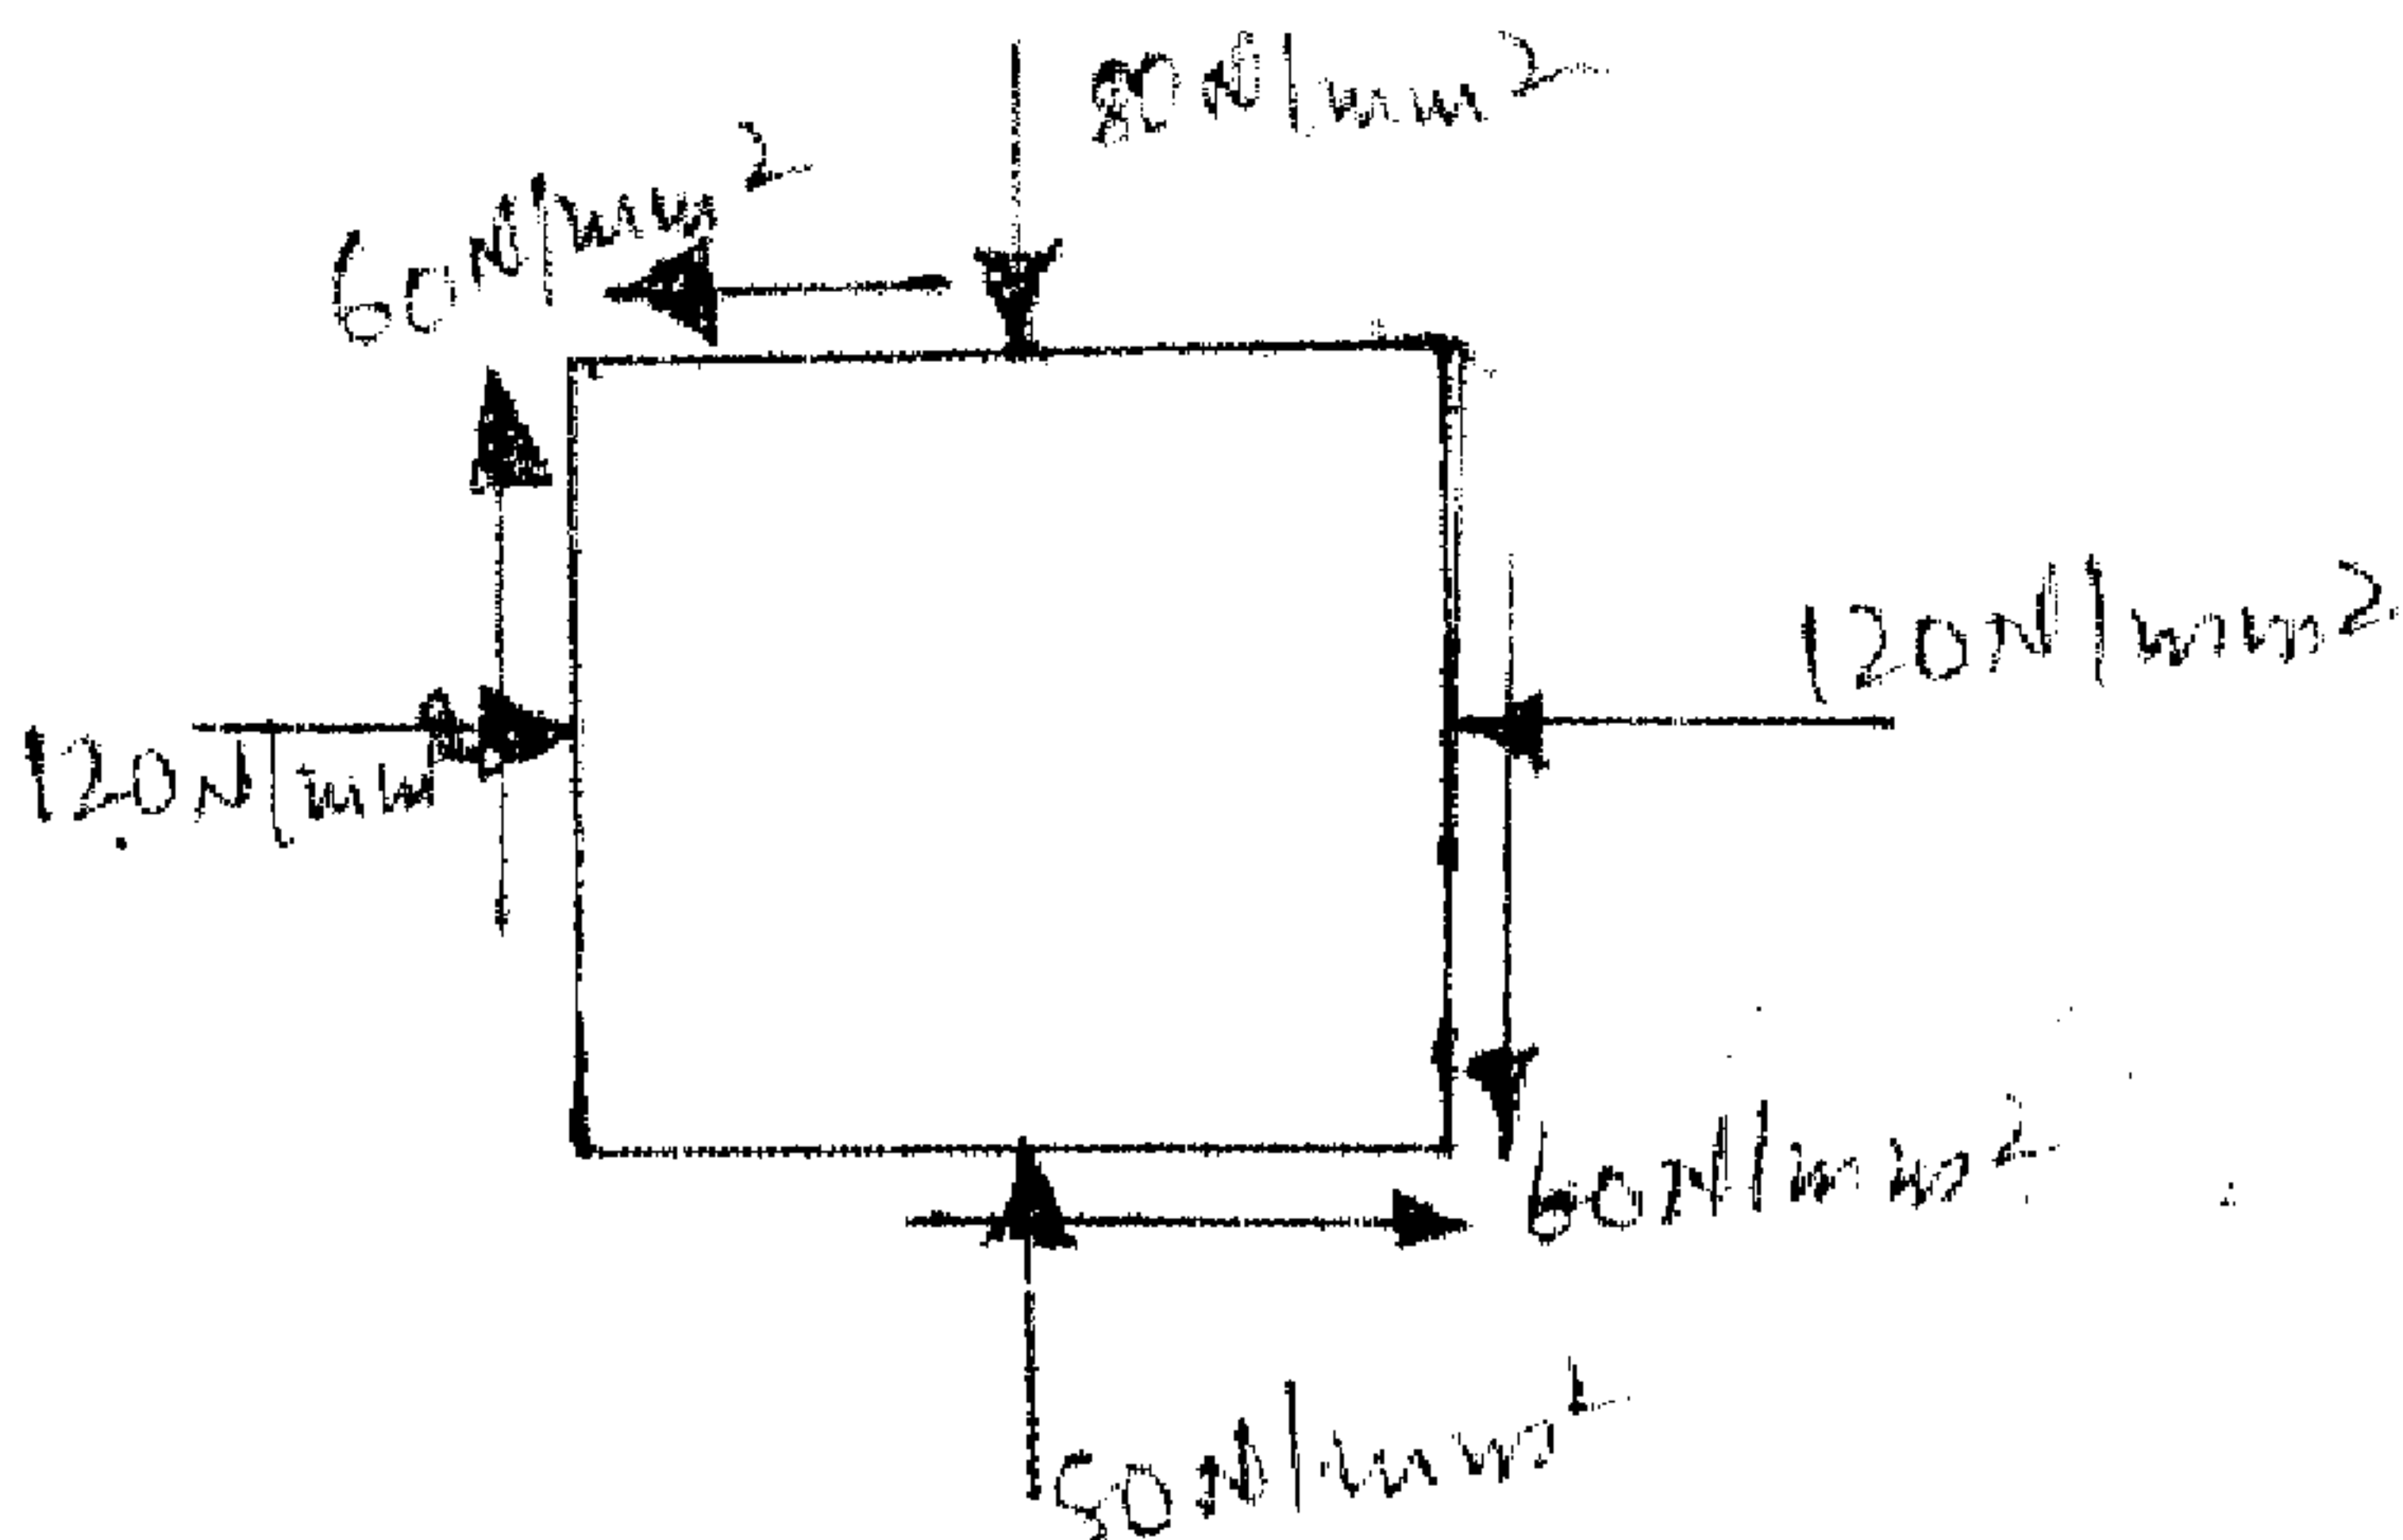

Fig. Q3 (c)
c. The state of stress in two dimensionally stressed body is as shown in figure Q3 (c). Determine the principal planes, principal stresses, maximum shear stress and their planes. (12 Marks)